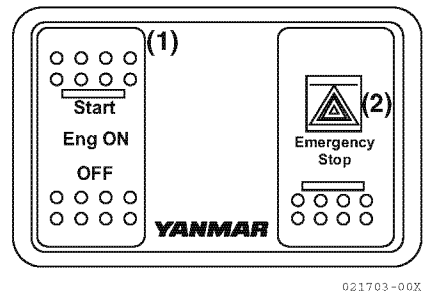

Figure 13
- The ignition switch (Figure 13, (1)) is wired to 1st station panel.
- The Emergency Stop switch (Figure 13, (2)) is wired in series with 1st station panel.